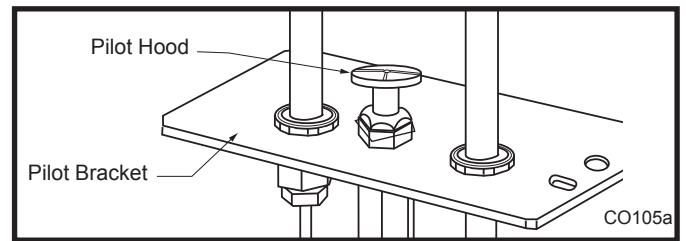

Fig. 41 Remove pilot hood.
1. Remove pilot hood by lifting up. (Fig. 41)